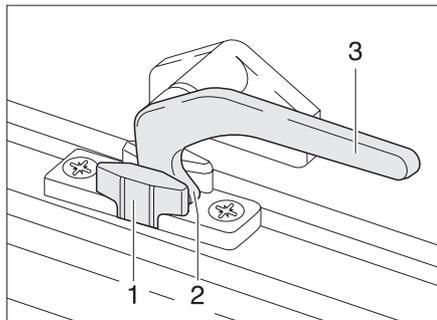
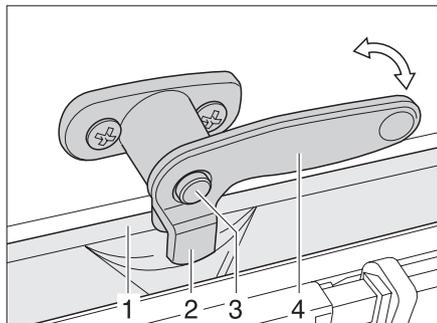

Fig. 21 Catch lever in the "continuous ventilation" position
Fig. 22 Catch lever with safety knob in "Continuous ventilation" position
- "Continuous ventilation" (Fig. 21)
- ▶ If it exists, press the safety knob (Fig. 22,3) down and hold it.
- ▶ Turn the catch lever (Fig. 21,3 or Fig. 22,4) a quarter turn towards the centre of the window.
- ▶ Return the catch lever to its initial position. In the process the locking catch (Fig. 21,2 or Fig. 22,2) is retracted into the recess of the window catch (Fig. 21,1 or Fig. 22,1).